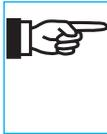

Figure 3
**Inserting the battery (Figure 3)**